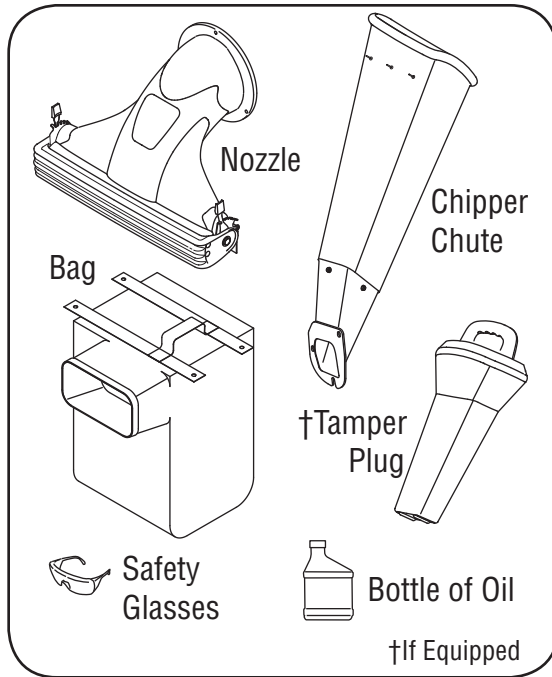

Figure 1
1. Following is the list of loose parts shipped with your equipment. Compare the parts with the illustration in Figure 1 to identify these items.